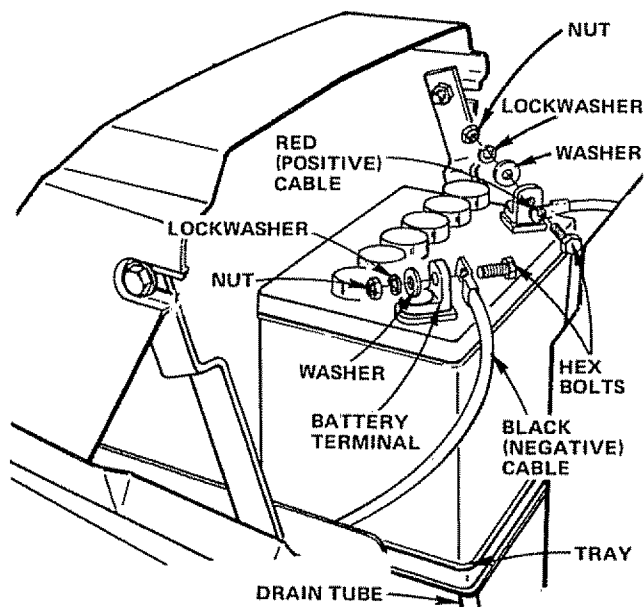

FIGURE 3
- b. Remove tape from Plastic Tray. Make sure Drain Tube (Fig. 3) is fastened to Drain Hole in Battery Tray and Battery Tray is positioned in hole of Battery Support.
- c. Place Battery in Plastic Tray (Battery Terminals to front of Tractor) (Fig. 3)
- a. Connect RED Battery Cable to Positive (+) Battery Terminal with Hex Bolt, Flat Washer, Lockwasher and Hex Nut (Fig. 3). Tighten securely.
- b. Connect BLACK Ground Cable to Negative (-) Battery Terminal with remaining Hex Bolt, Flat Washer, Lockwasher and Hex Nut (Fig. 3). Tighten securely.